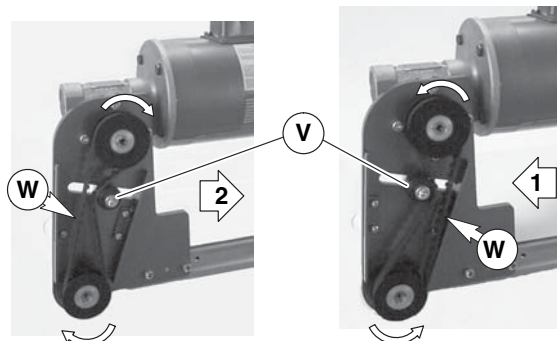

Figure 16
9. Depending on conveyor belt travel (direction 1 or 2 on Figure 16), locate timing belt tensioner (Figure 16, item V) as shown. Tension timing belt to obtain 0.125" (3 mm) deflection for 1.0 lb (456 grams) of force at timing belt mid-point (W). Tighten tensioner screw to 103 in-lb (12 N-m).
3. Depending on conveyor belt travel (direction 1 or 2 on Figure 16), locate timing belt tensioner (Figure 16, item V) as shown. Tension timing belt to obtain 0.125" (3 mm) deflection for 1.0 lb (456 grams) of force at timing belt mid-point (W). Tighten tensioner screw to 103 in-lb (12 N-m).
5. Depending on conveyor belt travel (direction 1 or 2 on Figure 16), locate timing belt tensioner (Figure 16, item V) as shown. Tension timing belt to obtain 0.125" (3 mm) deflection for 1.0 lb (456 grams) of force at timing belt mid-point (W). Tighten tensioner screw to 103 in-lb (12 N-m).